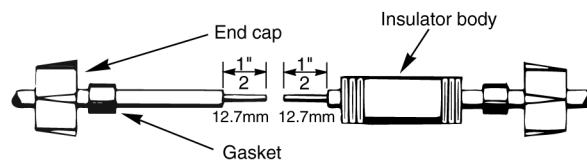

Figure 7 – Ready to splice.
- Unscrew plastic caps from insulators. Place a cap and neoprene gasket sleeve on each wire to be spliced (see Fig. 7).
- Slide insulator body onto one wire end (Fig. 7).